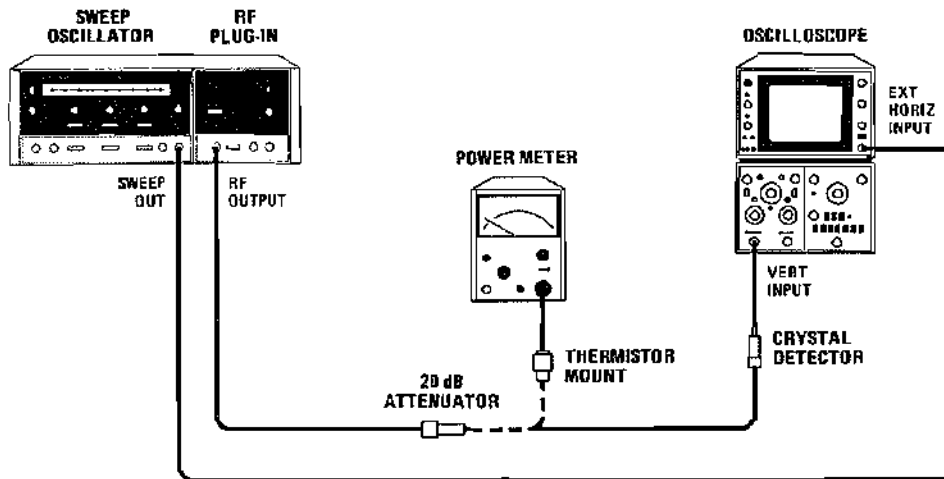

Figure 5-3. Preliminary ALC Adjustments Test Setup
Equipment listed is for eight (8) test setups (Figures 5-3, 5-4, 5-5, 5-7, 5-8, 5-9, 5-10, and 5-13).
1. Connect equipment as shown in Figure 5-3 with oscilloscope connected to RF Plug-in RF OUTPUT.